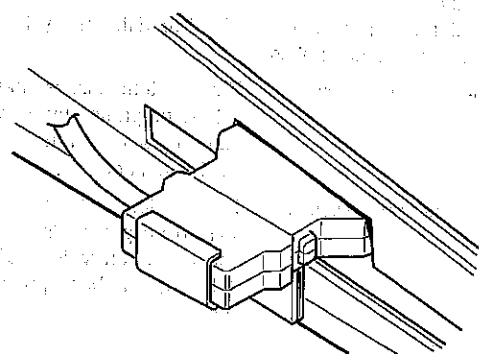

Fig. 6
- 9) Fix the set-screw ②. (See Fig. 6.)